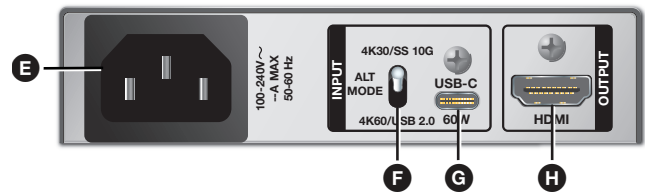

Figure 3. UCS 601 Rear Panel
- B USB 3.2 Type-A device ports (3)** — Connect up to three USB peripheral devices (such as cameras, touch displays, and microphones).
- C Power delivery LED** — Lights green to indicate power delivery from USB-C (see figure 3, **G**) to the host PC.
**NOTE:** Before toggling the DisplayPort Alt Mode switch (see figure 3, **F** on page 2), disconnect the AC power cord (from **E**) and USB-C cable (from **G**), and cycle power. After 45 seconds, reconnect the power cable, followed by the USB-C cable.
**G** **USB-C input** (see figure 3 on page 2) — Connect a USB-C source device to the USB-C input.